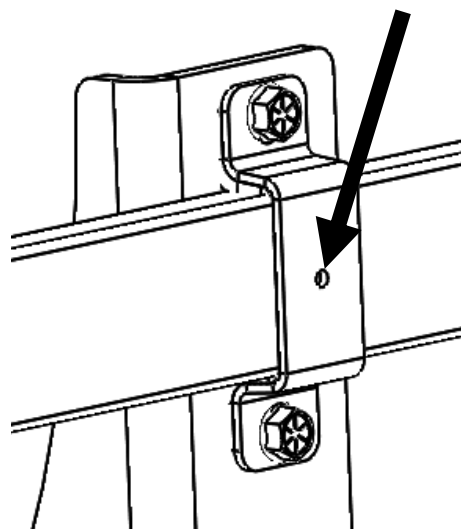

Figure 2.1 (Bracket hole for self-drilling screw)
2. Using a single sealing washer with each of the self-drilling screws, begin drilling the screws in place at the two locations highlighted in Figures 2.1 and 2.2 on each of the tool bars (four in total).